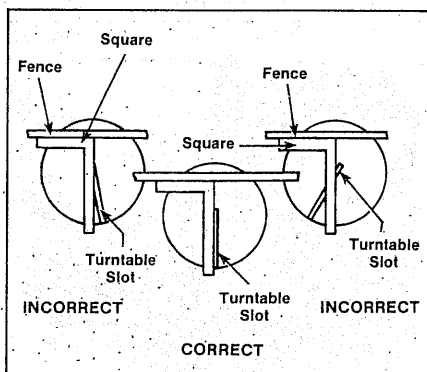

Fig. 13
SQUARING THE TURNTABLE TO THE FENCE (Fig. 13, 14)
2. Lay a steel square on the turntable as shown in Figure 13. Place the tongue of the blade against the fence and lay the edge of the blade over the slot in the table. The edges of the square and slot should be parallel.